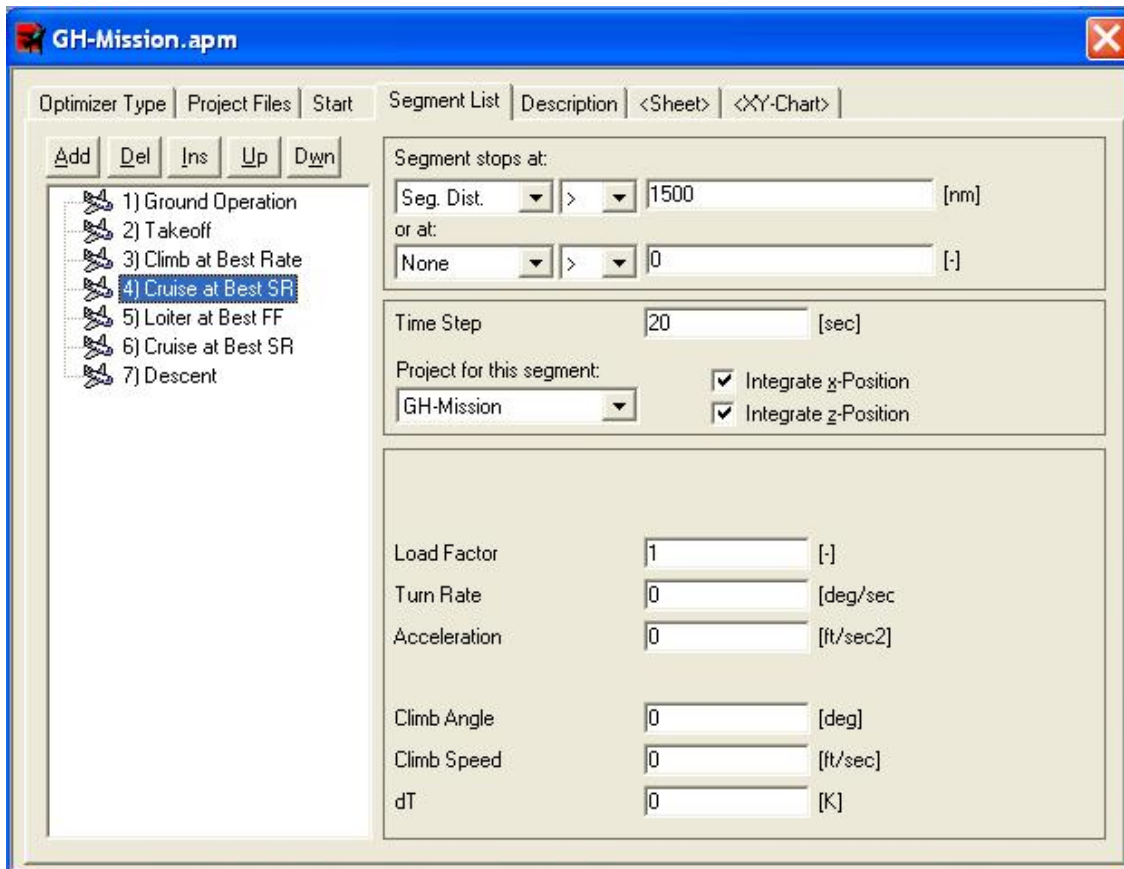

Figure 3-11. Segment List tab of Mission Module (4th Segment)
The fourth segment is cruise at best specific range (SR). Details of the third segment are shown in Figure 3-11.